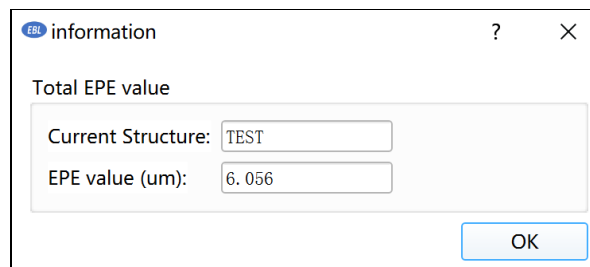

Figure 2.7.7 EPE
- 11) You can click the "EPE value" above to display the value of the EPE (Figure 2.7.7).